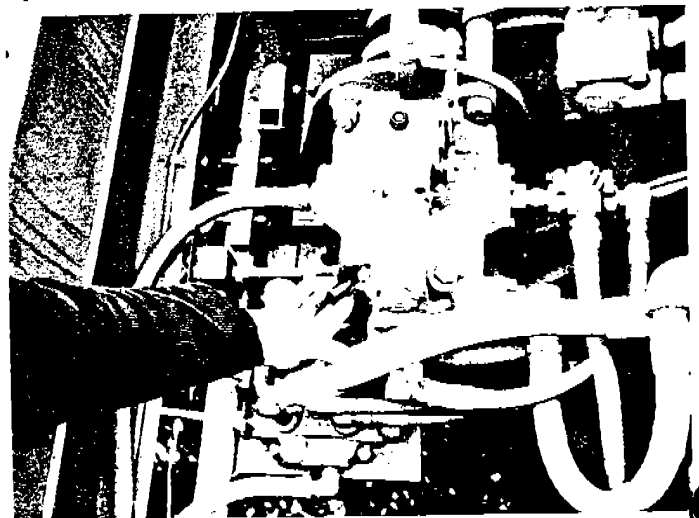

Figure 6
3. *Malfunction of check valves in the pump.* Remove the check valve and clean and inspect them. (Fig. 6)